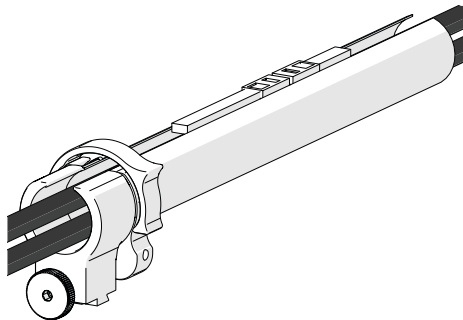

*Fig. 78* - Insert cables and hoses
1. Open the zipper tube. Begin at the tube's dovetail mount and place the cabling in the tube (*Fig. 78*).